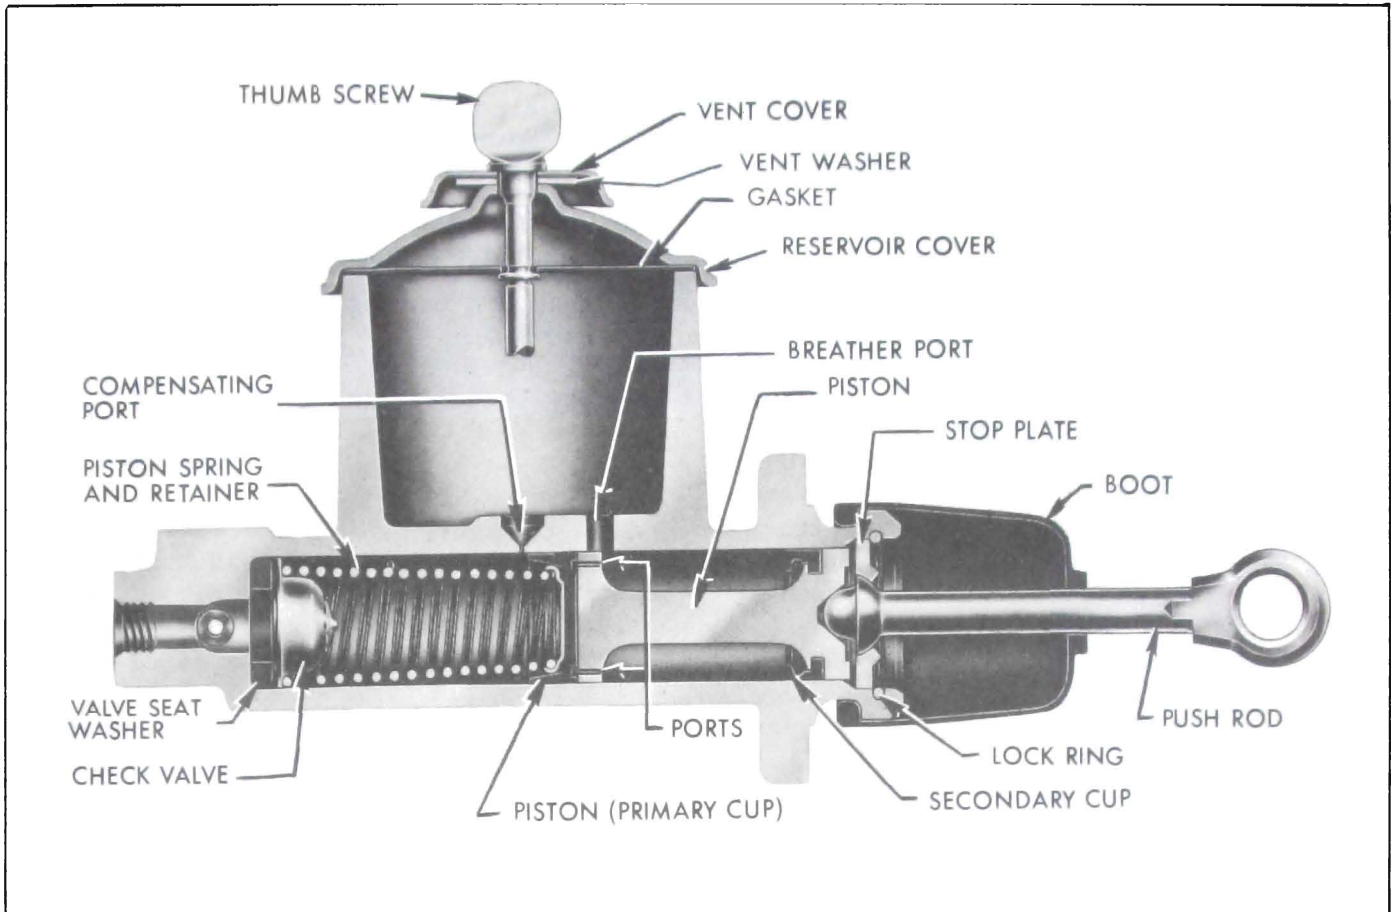

Figure 9-12—Standard Brake Master Cylinder
1. Remove rubber boot. Remove lock ring, then remove push rod with stop plate. See Figure 9-12.